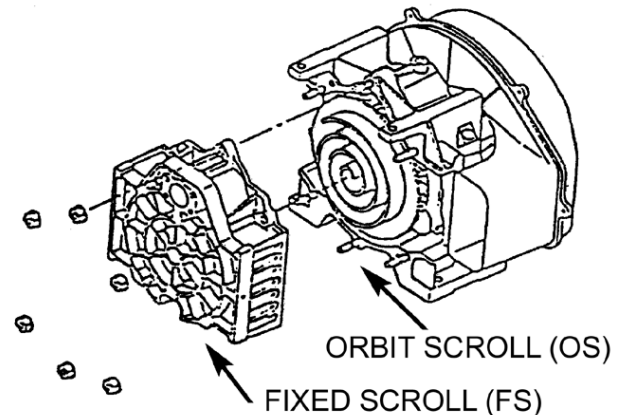

Figure 2. Removing the Fixed Scroll.
- d. Remove the six (6) nuts securing the fixed scroll to the housing. Remove the fixed scroll. Refer to Figure 2.